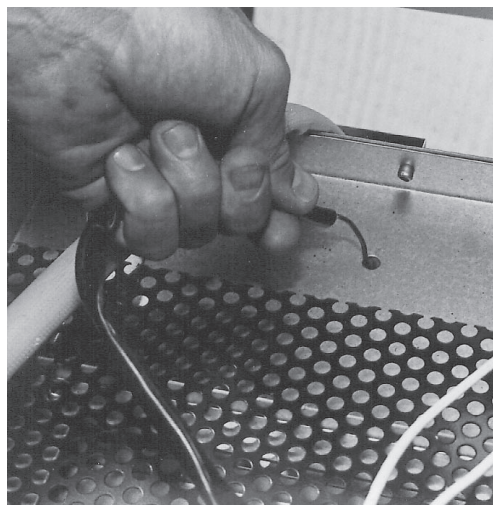

Fig. 19
10. From the burner box top left side, pull the thermopile lead and bulb from the oven. (Fig. 19)